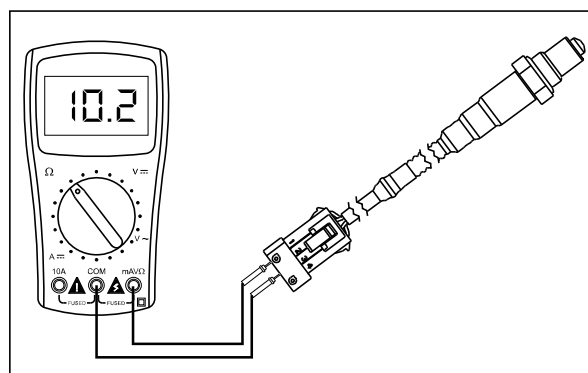

Fig. 5.58
- Connect the pocket tester's '+ve' lead and '-ve' lead to the white wires of the O2 sensor coupler. (Fig. 5.58)